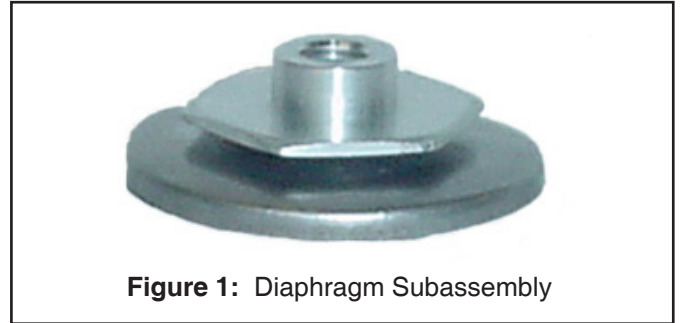
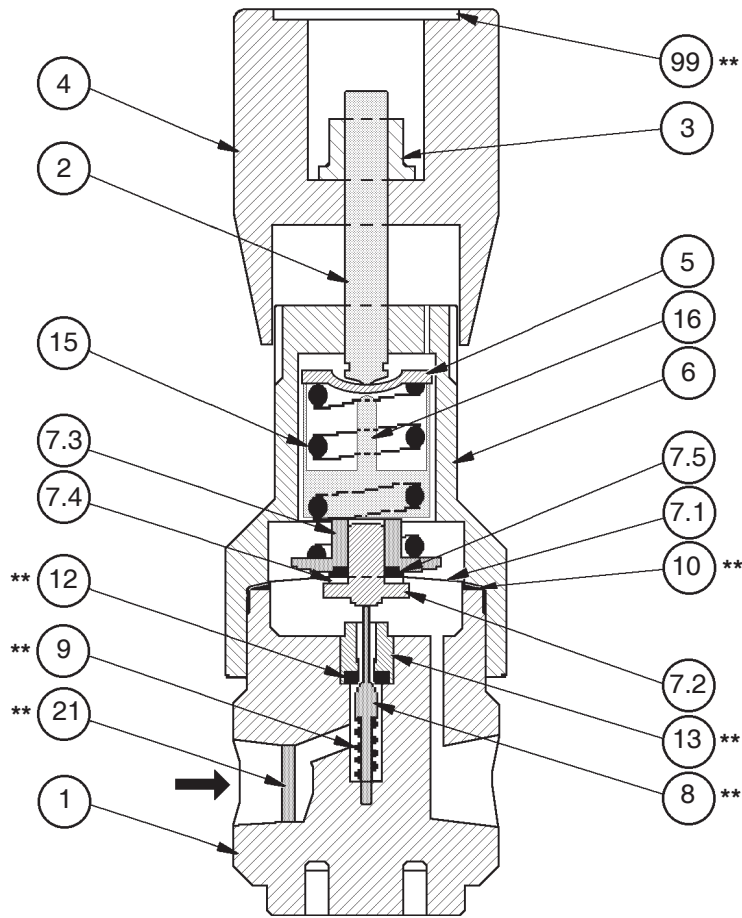

Figure 1: Diaphragm Subassembly
Figure 2: Model P2
3. Refer to Figure 2 for Model P1 basic regulator and Figure 1 for the diaphragm subassembly.